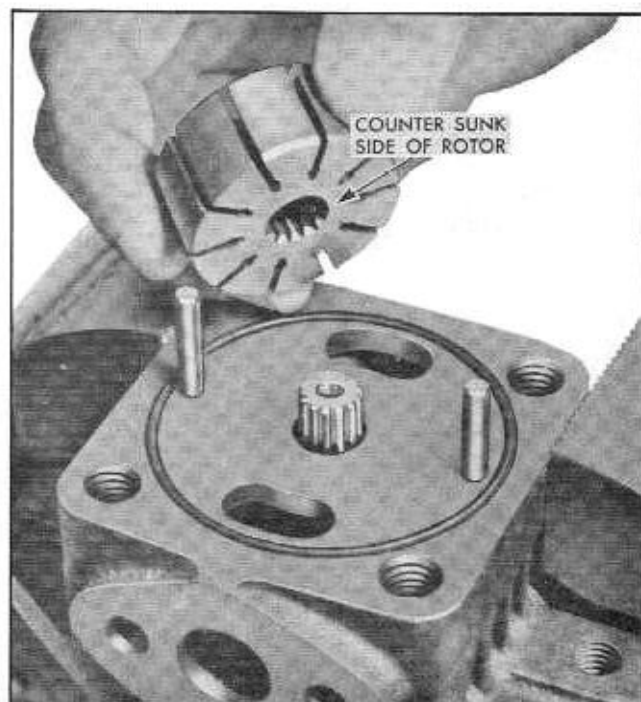

Fig. 9-77 Removing Pump Rotor
11. Remove pump rotor (Fig. 9-77).